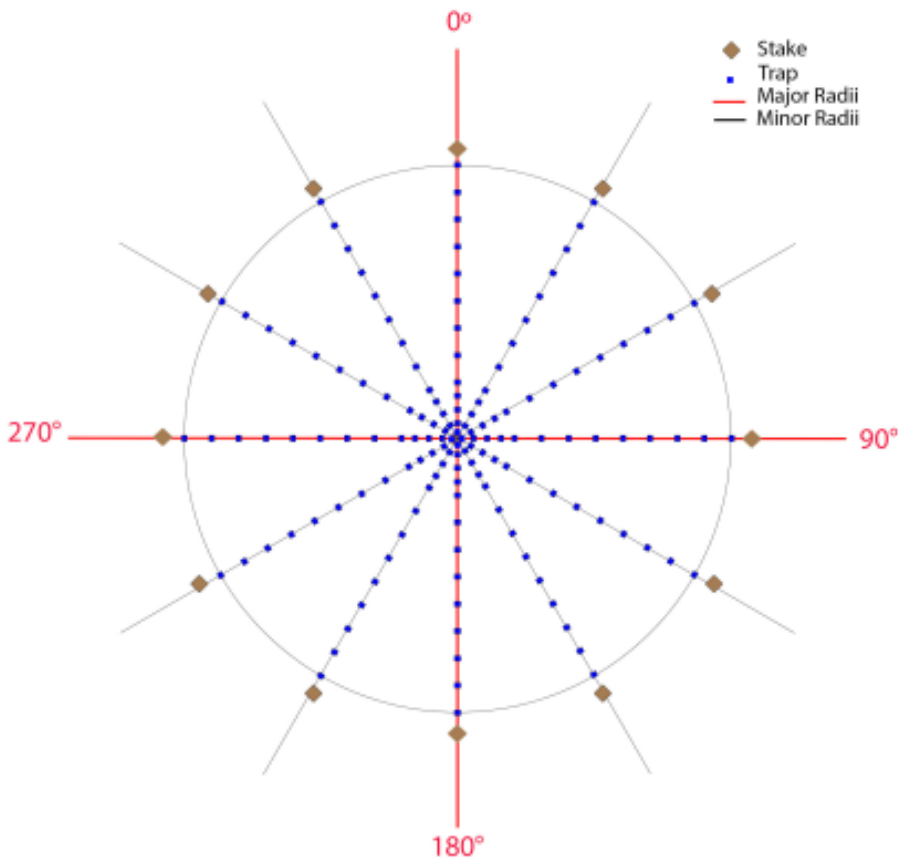

Figure 3: Final Layout of major and minor radii with traps
2. In each web, a permanent metal stake is placed at the central point of each web and ~1-2 feet after the last trap of each radii. They are to be replaced if it falls down. All stakes will have the tops marked in a bright color to improve visualization (this should be refreshed as needed). (See Figure 3 for orientation of stakes & overview of final layout)
15. Repeat #12 until all 8 minor radii are placed. (See Figure 3)